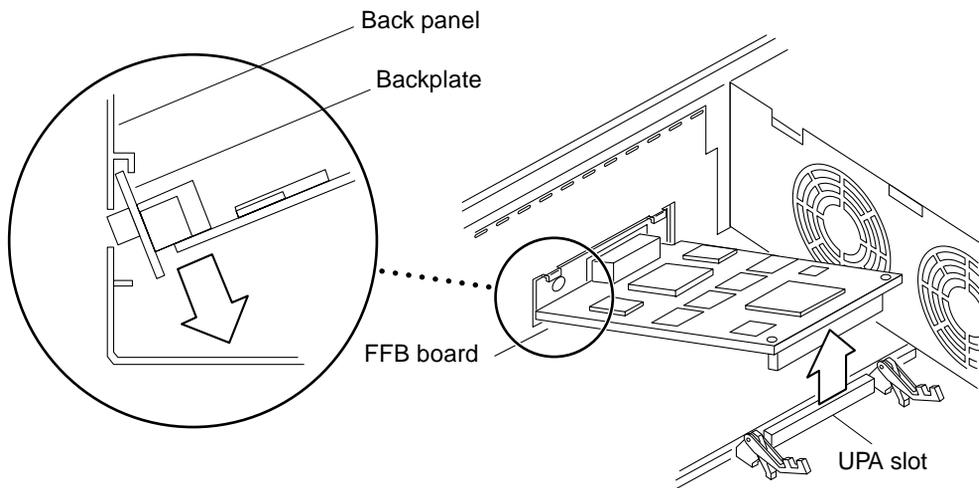

FIGURE 10-17 Removing the FFB Card
6. Hold the FFB card at each corner and gently pull the FFB card up to disconnect it from the UPA socket (FIGURE 10-17).